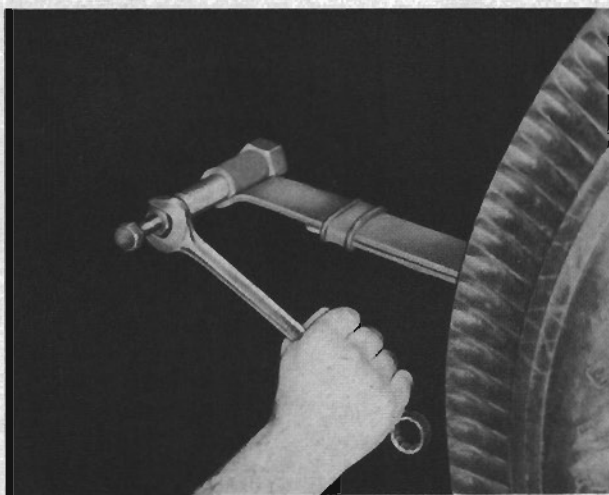

FIG. 5
the bushing and spring eye or frame bracket and install the stop adapter (6) on the stud. Slide the unthreaded adapter (4) over the stud, with the cupped side toward the bushing. Install the thrust bearing (3) and pusher nut (2) and turn the pusher nut as in Fig. 5 to force the bushing into place.